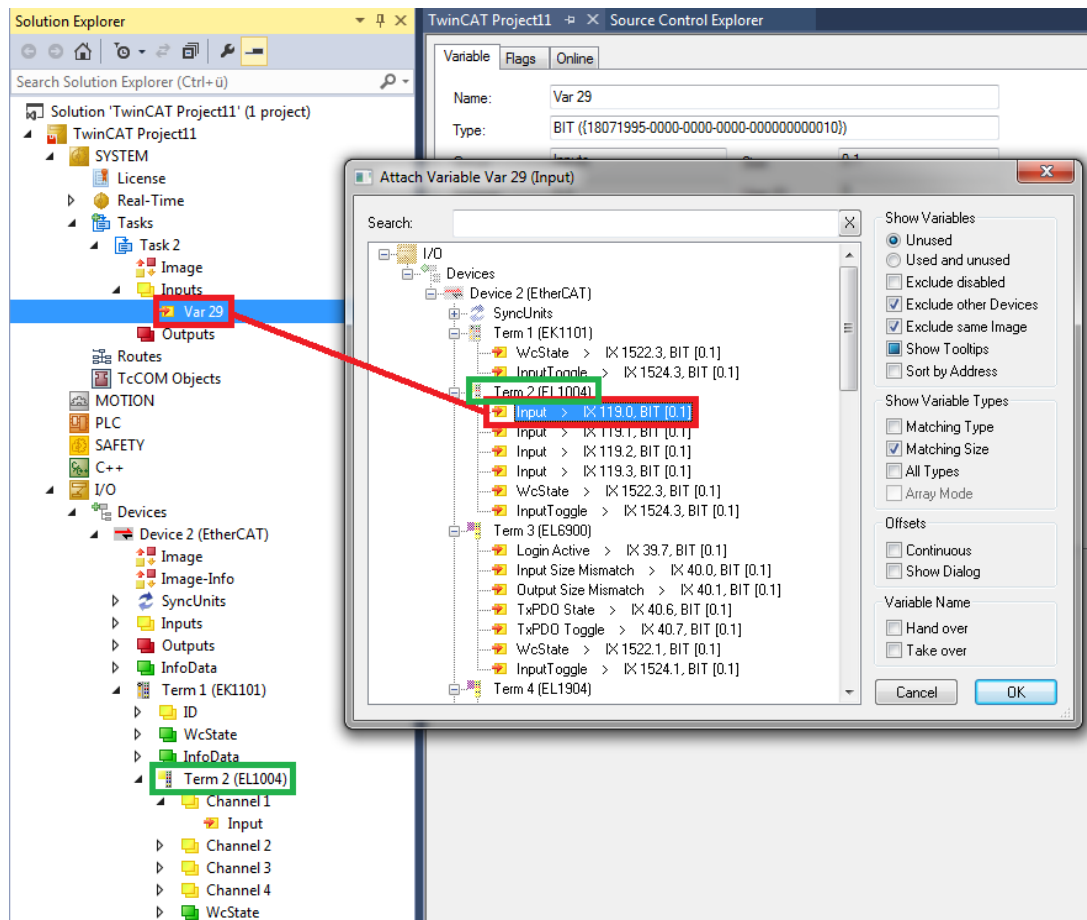

Figure 22: create a link between I/O Task and EtherCAT network
- c. Create a link between the software variable in the I/O Task and the hardware variable in the EtherCAT process data (Figure 22).